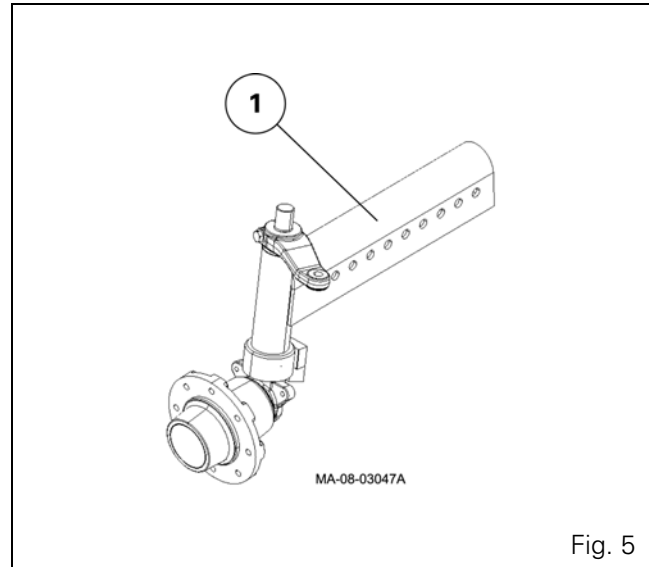
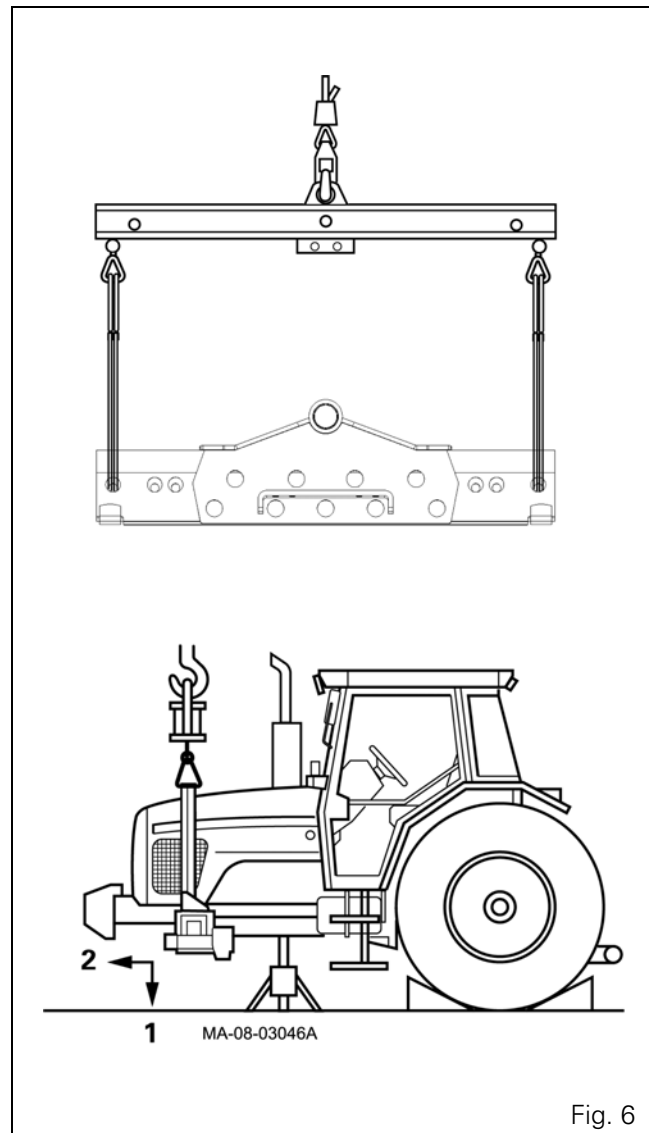

Fig. 5
Fig. 6
63. Remove the screws and nuts (14).
64. Take the ball joints (6) out of the steering levers (7).
65. Remove the two stub axles (1) (Fig. 5).
67. Remove screws (30), and remove the ram (2) from the axle beam (12).
68. Sling the axle beam (12) (Fig. 6).